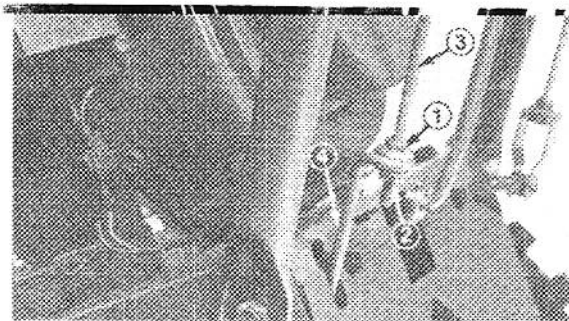
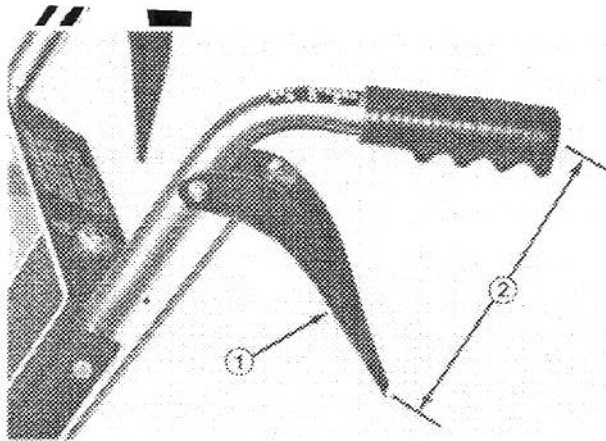

Figure 31
Figure 32
1. Loosen locknuts securing upper traction control rod to lower traction control rod (Fig. 31).
2. Adjust upper locknut (Fig. 31) until there is approximately 8 inches (20.3 cm) between the center of the handle and the tip of the traction control lever (Fig. 32).